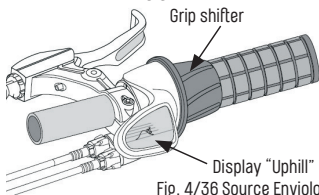

Fig. 4/36 Source Enviolo
- Clockwise rotation: Display shows a "Uphill" ("Fig. 4/ Source Enviolo" on page 36). This transmission should be selected to start or to ride uphill.